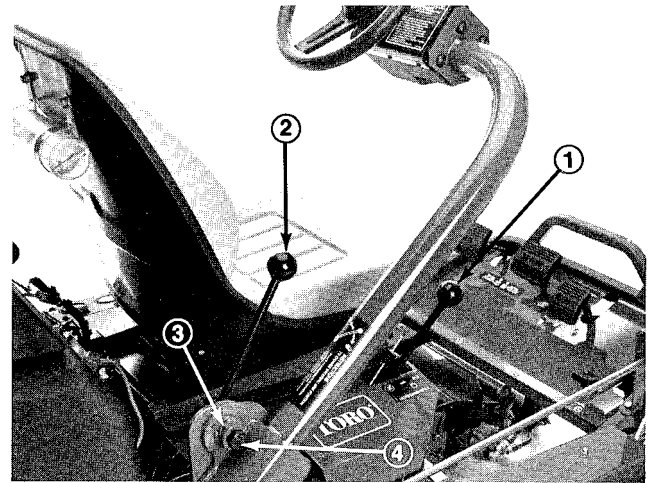

Figure 17
SHIFT SELECTOR (Fig. 17) – Located on the top of the right hand panel. Provides two (2) traction selections, plus a “NEUTRAL” position. It is permissible to shift from one selection to another while the Greensmaster 3100 is in motion. No damage will result.
STEERING ARM LOCKING LEVER (Fig.17) – Rotate lever rearward to loosen adjustment, raise or lower steering arm for operator comfort, then, forward to tighten adjustment.